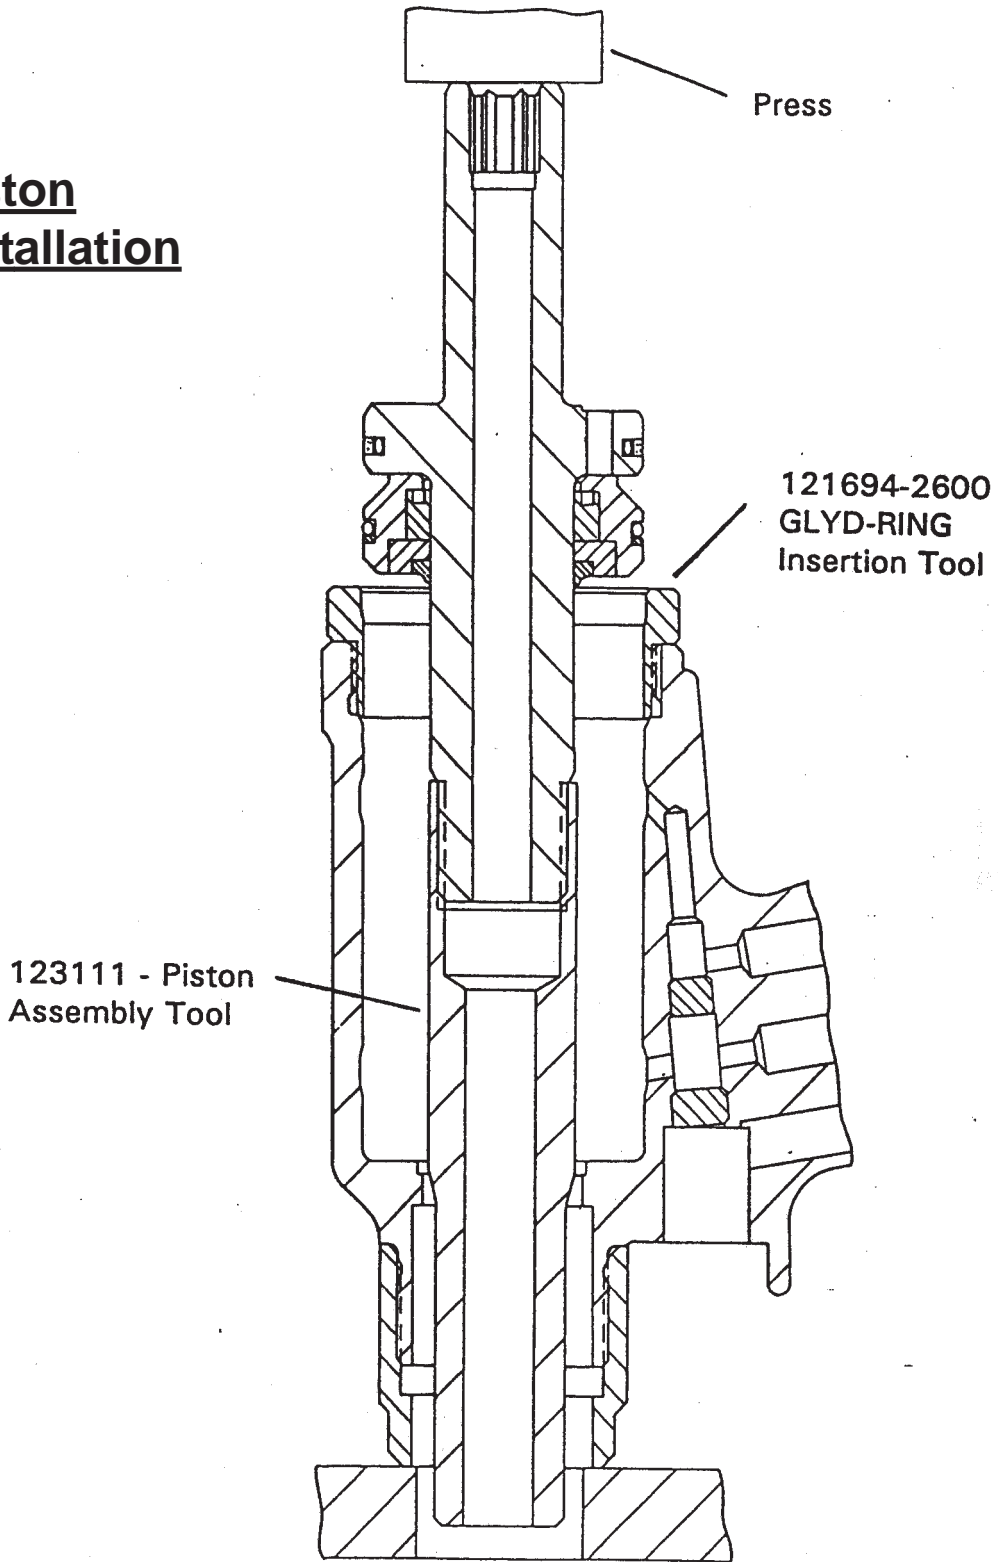

FIG. 5
11. See Figure 5. Place Spacer 123112 over threaded end of piston. Screw Piston Assembly Tool onto piston. Press or drive piston, front gland and rear gland out of cylinder. Place hose ends in container to catch oil that is forced out by piston.